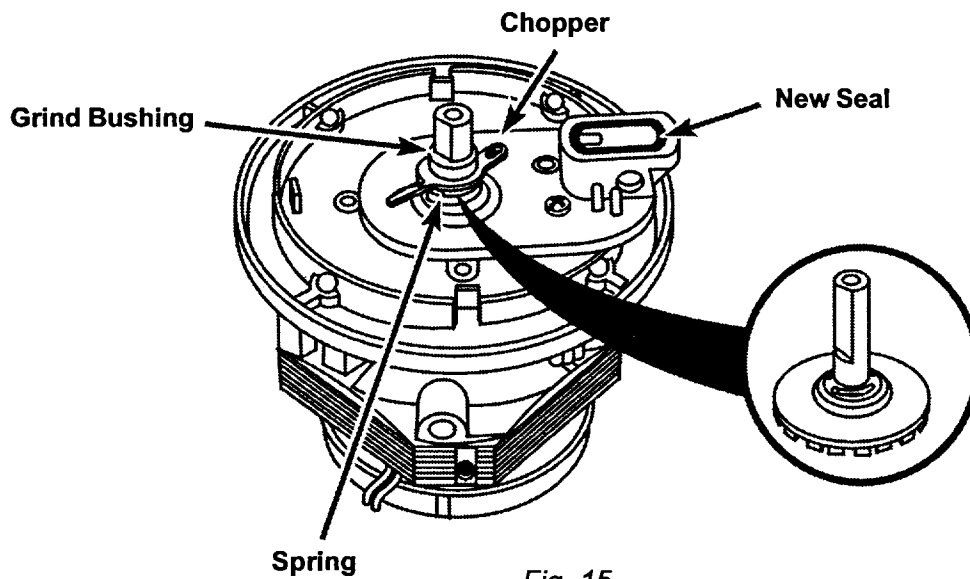

Fig. 15
6. Replace the drain impeller assembly and secure the drain cover to the pump base. Then replace the sleeve, spring, chopper and grind bushing. Insert a new seal. Make sure the spring is properly assembled to the chopper and seated in one of two retaining holes in the drain impeller. (Fig. 15)